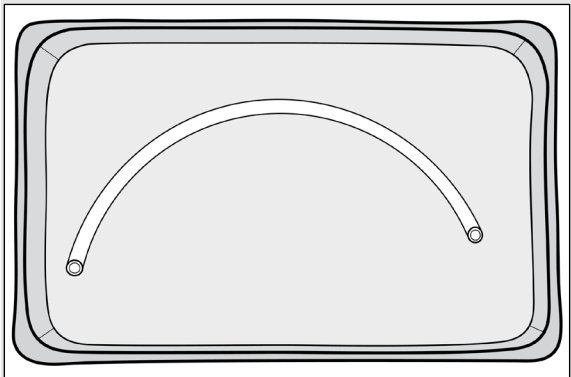

Figure 8: Store SYMVESS in a basin of sterile saline solution
Step 8: Use sterile gloves or atraumatic instruments when handling SYMVESS. SYMVESS is ready for immediate implantation OR should be kept immersed in a basin of sterile saline solution at room temperature while the patient is being prepared for surgical implantation (Figure 8). SYMVESS may be immersed in sterile saline solution for up to eight hours during surgical preparation for implantation. IF SYMVESS DRIES OUT, IT IS NOT USABLE AND MUST BE DISCARDED.